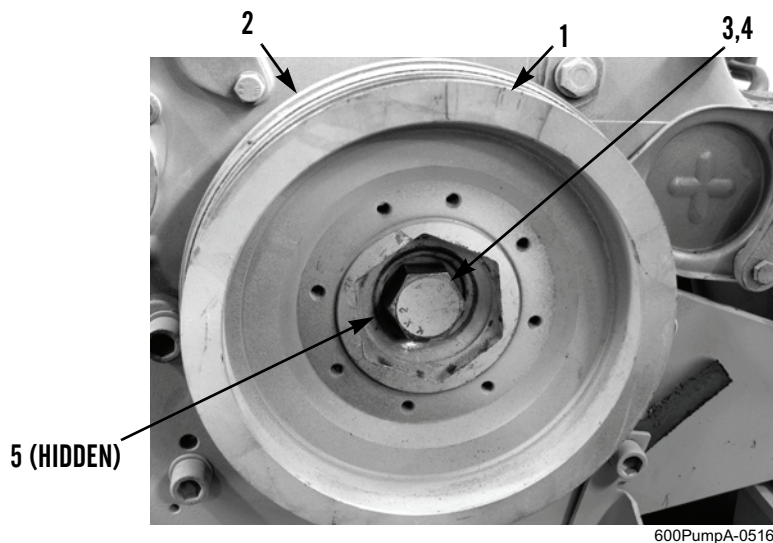

Figure 2. V-Belt Pulley and Vibration Damper.
1. Use retainer tool on pulley (Figure 2, Item 1) to hold pulley while turning bolt (Figure 2, Item 3) clockwise (right) to remove torque on bolt.
2. Remove bolt (Figure 2, Item 3), washer (Figure 2, Item 4), and pulley (Figure 2, Item 1) and vibration damper (Figure 2, Item 2) as an assembly from crankshaft (Figure 2, Item 5).